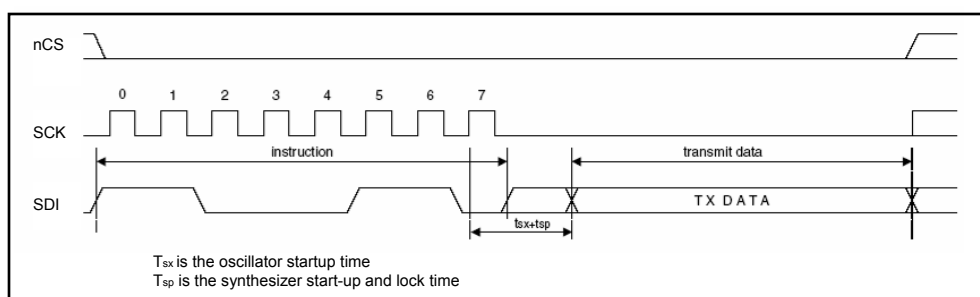

Figure 6. Data Transmit through SDI pin
The Transmit Command Register in EEPROM mode holds the count of the number of data bytes to follow. In processor mode, only the command code is sent and the data is applied to the SDI pin **WITHOUT** a clock. If clock pulses are sent, the data will be interpreted as command data. In this mode the SDI pin acts like the MOD input pin (16). See Figure 6.